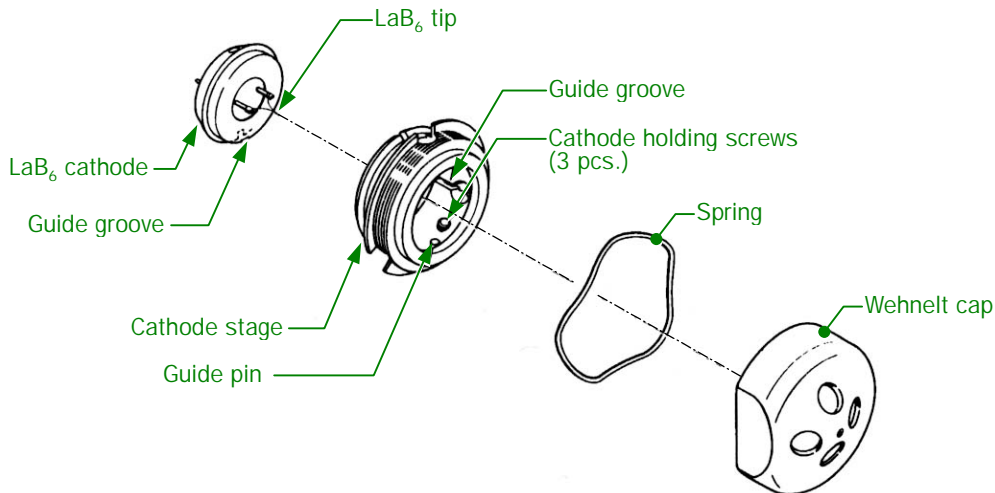

Fig. 6.2
4. After turning the Wehnelt cap about one-turn counterclockwise, remove the LaB₆ cathode by loosening the cathode holding screws (Fig. 6.2).